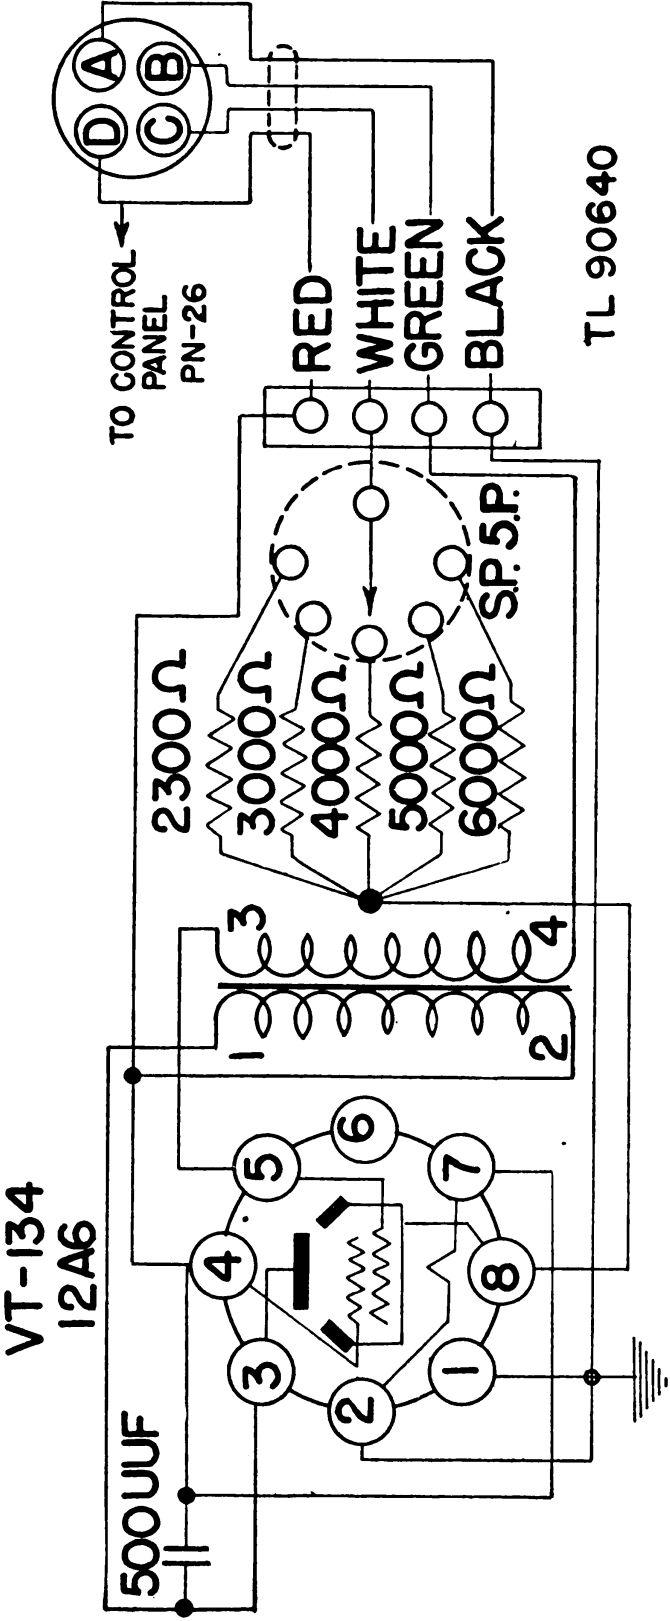

Figure 36.—Schematic diagram of oscillator.
40. OSCILLATOR BC-1304 (fig. 36).